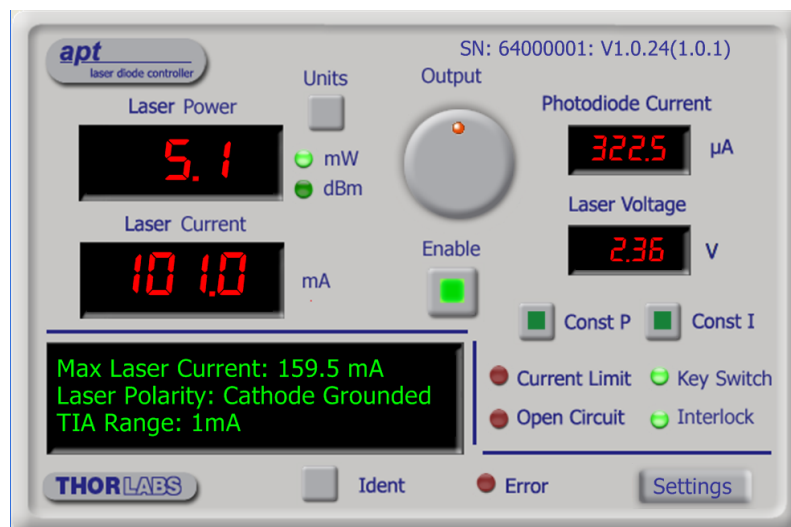

Fig. 5.1 Laser Driver Software GUI
- 8) Run the APT User program - Start/All Programs/Thorlabs/APT User/APT User. The APT server registers automatically the units connected on the USB bus and displays the associated GUI panels as shown in Fig. 5.1.